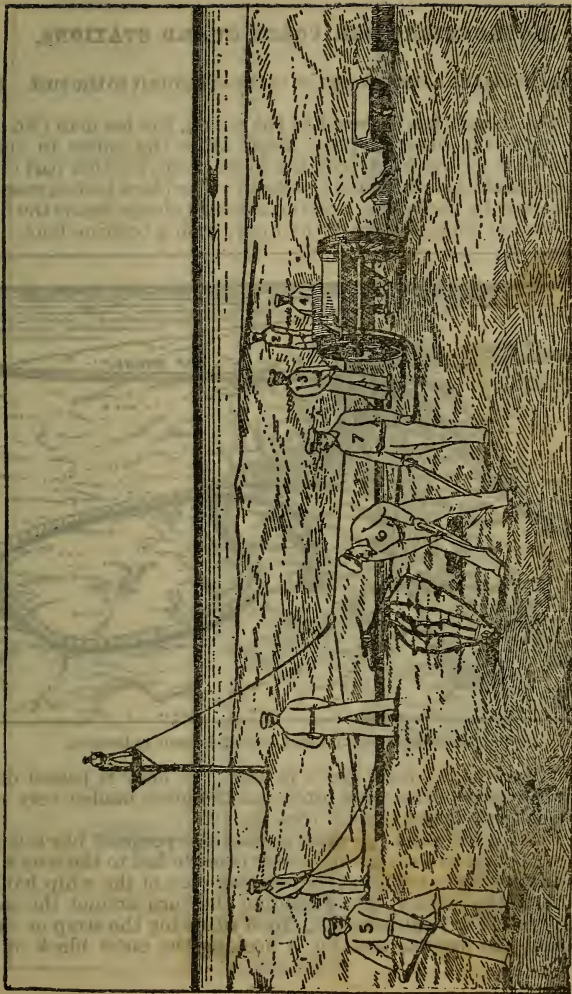

FIG. 7.—Hauling of whip.
(12) The officer in charge makes a signal to the wreck to haul on board; No. 1 tends to the left and No. 2 the right part of the whip, separating them a distance of 50 or more yards; Nos. 3 and 4 haul the whip from the reel as fast as it is needed, No. 3 standing on the left, No. 4 on the right. (See fig. 7.)